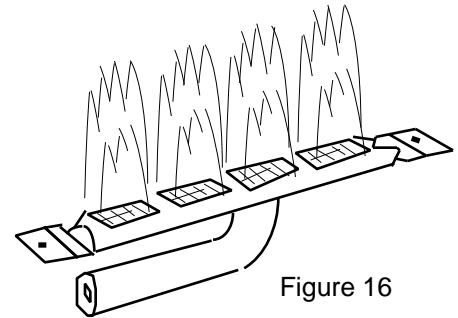

Figure 16
- A full bodied, lively flame. The flame will be blue at the base and a combination of blue and yellow at the body and tips. Figure 16.